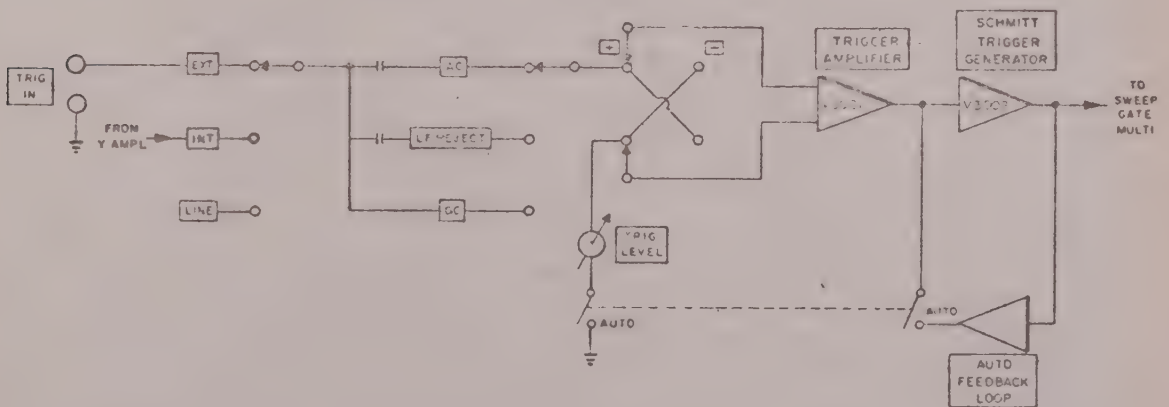

Figure 3-5. Trigger Circuit, Functional Block Diagram
- Figure 3-5. Trigger Circuit, Functional Block Diagram
3-4. TRIGGER CIRCUIT DESCRIPTION (Figure 3-5)